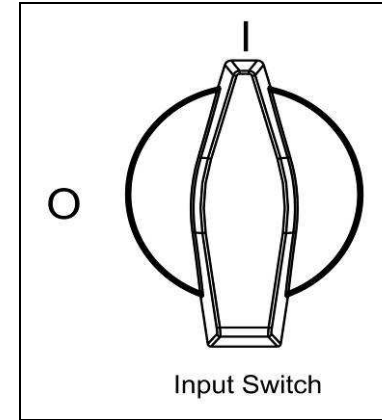

Figure 4
Turn the DC switch 90° to the **on** position (position **I**) shown in Figure 4
6.1.1 Connect the PV string voltage by switching on the DC switch, referring to section 4.4.2. Figure 4. The inverter starts automatically when it senses DC voltage greater than 250 VDC. All of the LEDs will shine. The LCD will display drawing A.